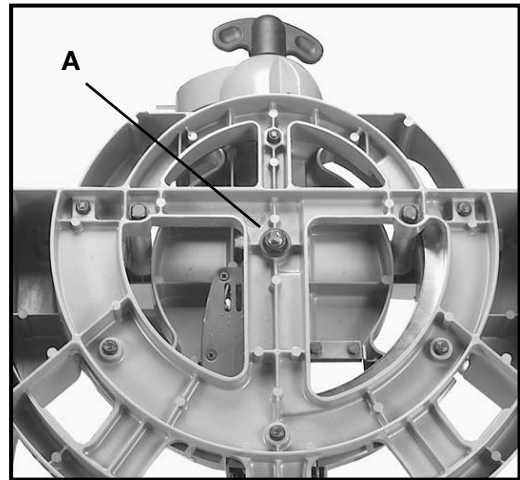

Fig. 14
To adjust the sliding fit between the movable table and the base, turn nut (A) Fig. 14, clockwise to increase the sliding fit (opposite to decrease the fit). This adjustment should not be so tight that it restricts the rotating movement of the table, or so loose that it affects the accuracy of the saw.